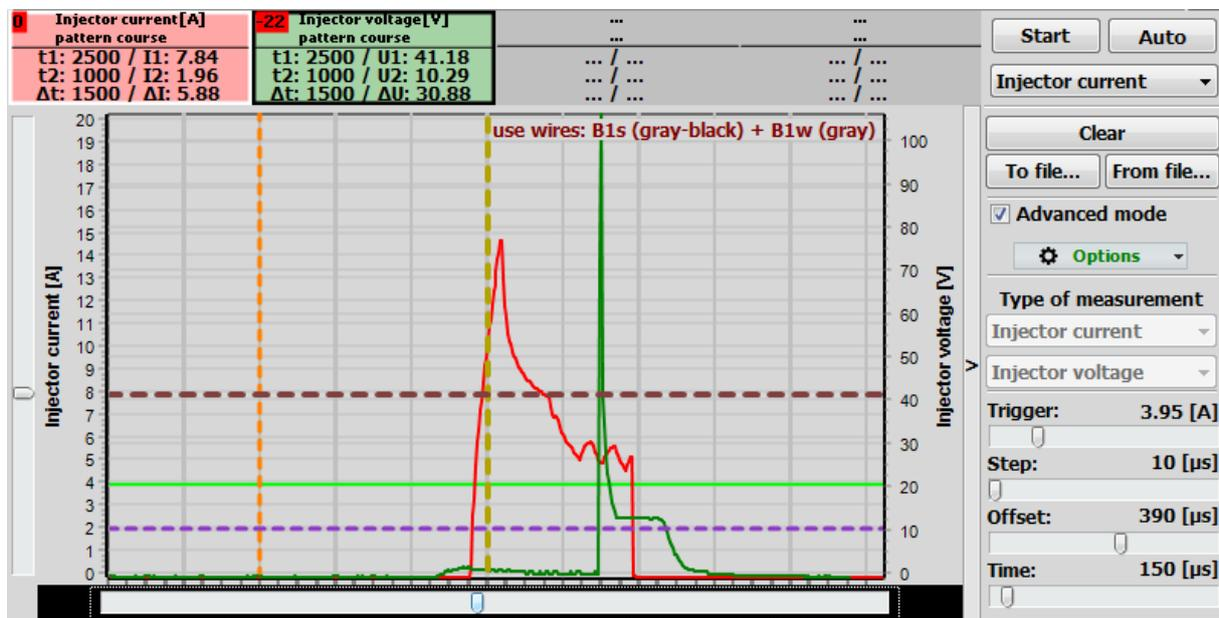

Fig. 2.123 Editing the time offset on the waveform
- Edit offsets – allows you to move the selected waveforms in the timeline. The waveform to be moved should be selected by clicking on its value window. The offset is set with a slider below the waveforms, and the current time offset value is displayed in the red square (Fig. 2.123).